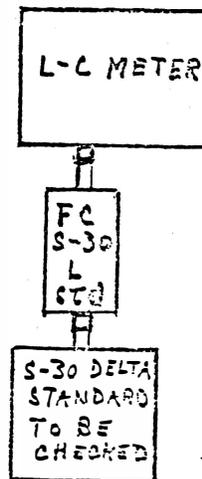

Fig. 2
- S-30 DELTA (to be checked) to INDUCTANCE STANDARIZER (see Fig. 2)